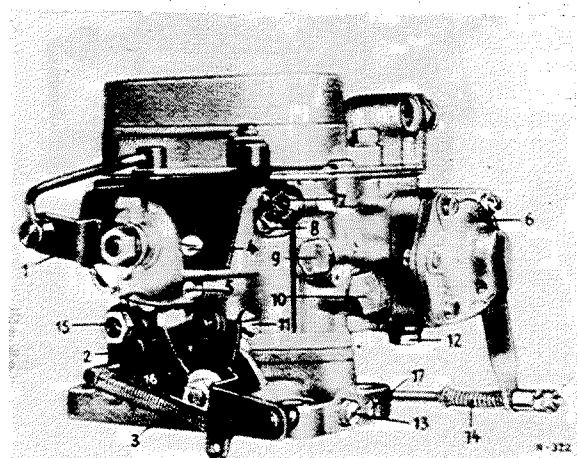

Fig. M 33 S/2
5. Unscrew the fixing screws (4) of the Bowden cable bracket at the starter mechanism and also the hexagon nut by which the relay lever (1) is fixed. Then remove the linkage assembly for the start mechanism (Fig. M 33 S/2).